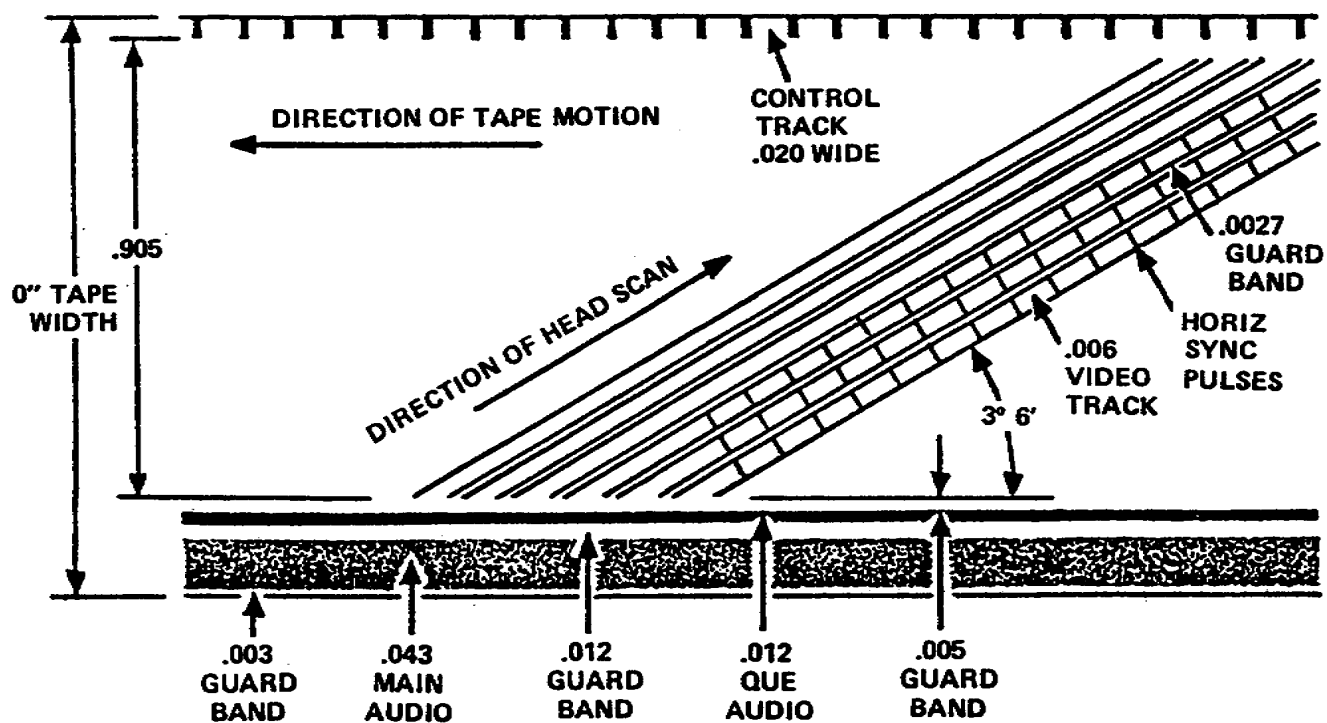

Figure 1-19. One-inch helical scan video tape, showing all dimensions and relative position on the tape
2. Figure 1-19 illustrates the guard bands as well as audio control, cue, and video. The guard bands serve to prevent crosstalk between tracks. You will note the small width of the video track, .006 mils, and the smaller guard band of .0027 mils.